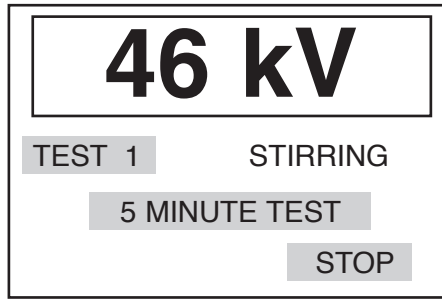

Figure 7 Example Stirring Screen
3. When breakdown occurs (or if the maximum voltage is reached) the test voltage is cut off, the 'kV' warning light goes out and the test set begins its oil sample stirring period. The stirrer rotates for a period of 30 s and the breakdown voltage value of the previous test is retained on the display. The display screen appears as in figure 7.
3. When breakdown occurs (or if the maximum voltage is reached) the test voltage is cut off, the 'kV' warning light goes out and the test set begins its oil sample stirring period. The stirrer rotates for a period of 1 minute and the previous breakdown voltage is retained on the display. The display screen appears similar to that in figure 7.
6. If the test was unsuccessful according to BS 5730a, two further consecutive successful tests must be performed. Prior to voltage application a one minute stir followed by a one minute stand period is performed. Display information is based on figures 7 and 8 respectively.
9. If the test was successful a third test must be performed. Prior to voltage application a one minute stir followed by a one minute stand period are performed. Display information is based on figures 7 and 8 respectively.